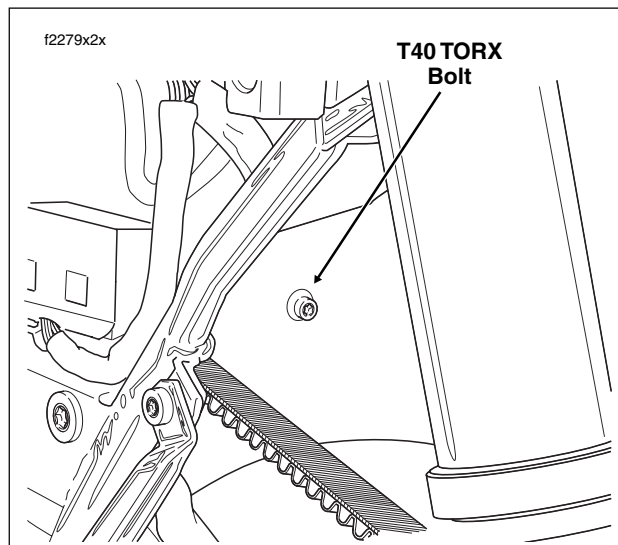

Figure 2-180. Rear Fender Front Mounting Bolt (Left Side View)
7. Standing on left side of vehicle, use a T40 TORX drive head to release front of rear fender from battery box. See Figure 2-180.
4. Standing on left side of vehicle, start bolt securing front of rear fender to battery box. See Figure 2-180.